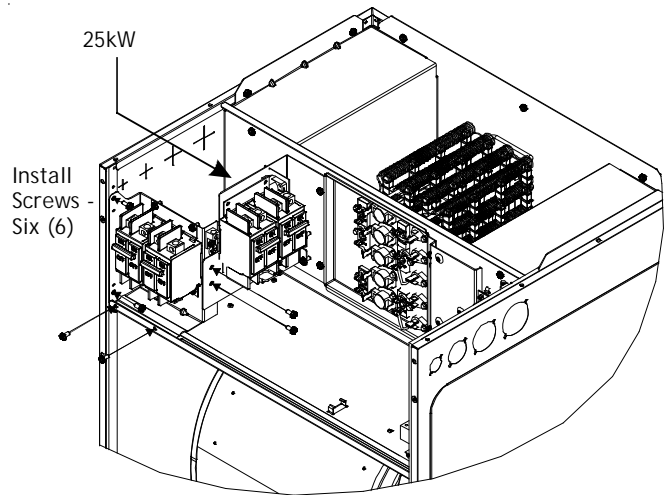

Figure 4
*For 25kW applications, see Figure 4 for installation.*